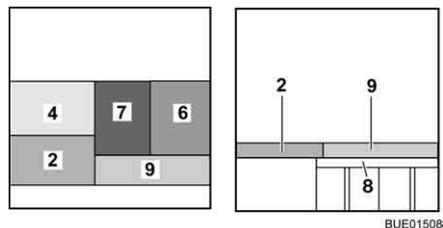

Fig. 145 After conversion
- Place the seat cushion (Fig. 145,7) in the centre.
- Insert the back cushion (Fig. 145,6) between the seat cushion (Fig. 145,7) and the wall.
- Place the additional cushion (Fig. 145,9) on the bed widening.
- Place the back cushion (Fig. 145,6) between the seat cushion and the wall.